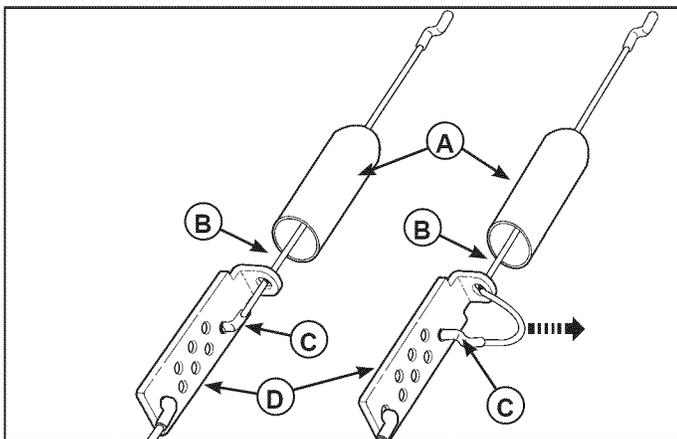

Figure 36. Traction Drive Cable Adjustment
2. To adjust tension on the cable slide the cable boot (A, Figure 36) off the cable adjustment bracket (D).
3. Remove the "Z" hook (C) from the cable adjustment bracket (D) to a different adjustment hole. The cable should have no slack. The cable should have no tension or load.
4. Slide the cable boot (A) over the cable adjustment bracket.